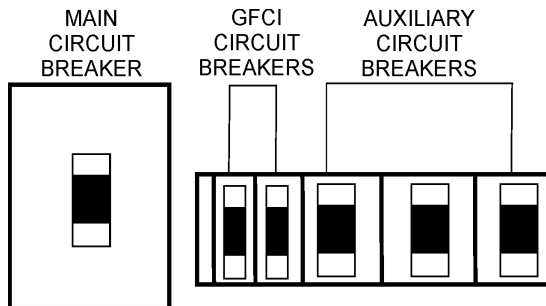

Figure 42. Main, Aux. and GFCI Circuit Breakers
1. Be sure and place the **main, G.F.C.I.** and **aux.** circuit breakers (Figure 42) in the **"OFF"** position prior to starting the engine.